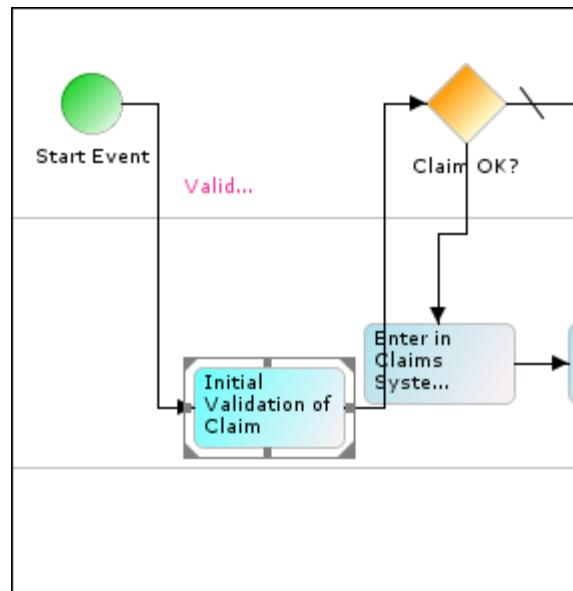

Figure 45: New Color for the Activity Element
3. Select the required color for the activity element and click **OK**. This changes the activity element color to the new color (see Figure 45).